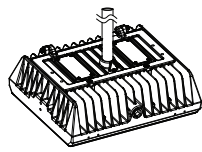

Figure 20
- 4.Lock the driver box cover with screws(Figure 20).The required torque of the screws for fixing the driver box cover is 1.5 to 1.7 Nm .